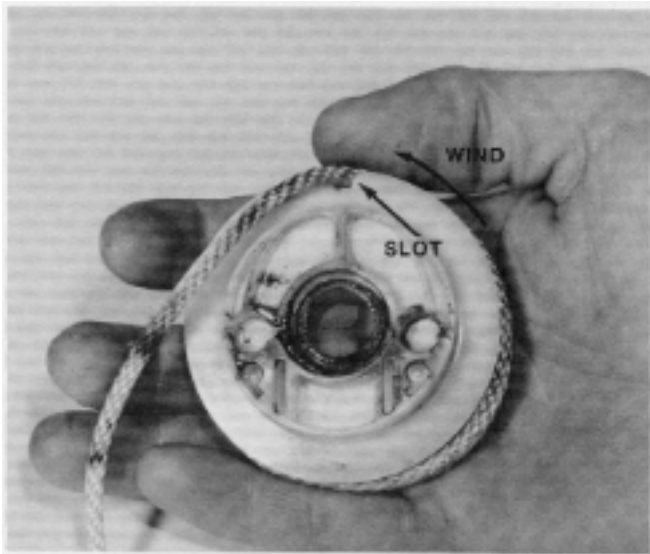

Figure 71
4. Wind the recoil rope onto the reel in a *counterclockwise* direction (as viewed from the side of the reel *without* the knot in it). Hook the end of the rope in the slot provided in one of the reel flanges. Leave about 15 cm (6 inches) of rope. See Figure 71.